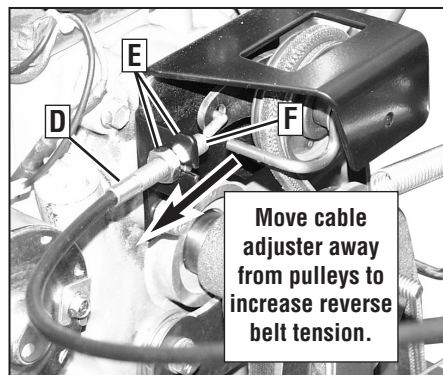

Figure 5-14: Reverse clutch cable adjuster. Left-side view with belt cover removed.
3. Reverse belt tension adjustments are done with the reverse clutch cable adjuster located on the left side of the machine near the engine (D, Figure 5-14). Use two 1/2" open-end wrenches to loosen the two adjuster jam nuts (E) a few turns.
4. Move the cable adjuster (D, Figure 5-14) away from the pulleys to increase belt tension.